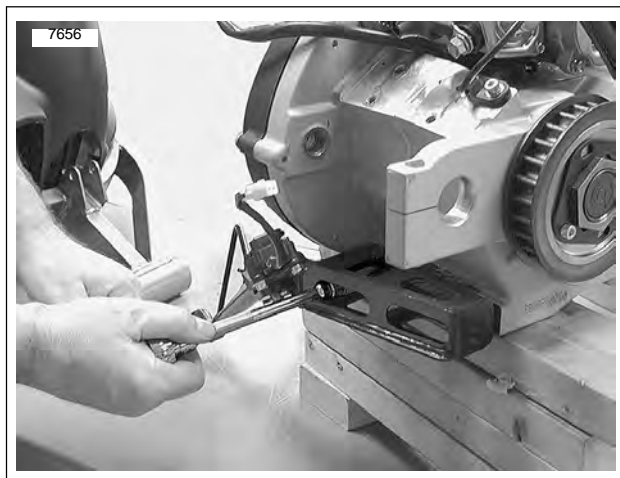

Figure 3-21. Side Stand Bracket
2. See Figure 3-21. Install side stand and bracket assembly. See 2.30 SIDE STAND.